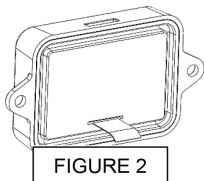

FIGURE 2
- 2.1 **See Fig 2**--Pull the battery protection strip completely out of display and discard. This will turn on the display.